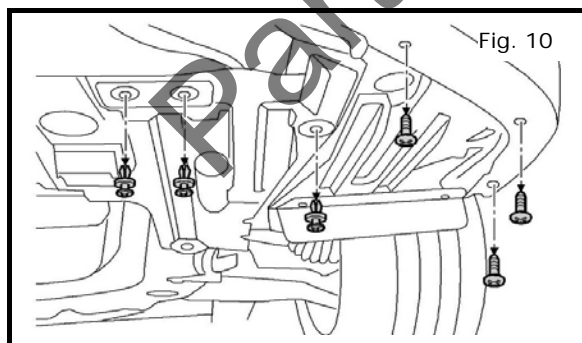

Fig. 10
- b) Remove three (3) phillips screws followed by three (3) retaining clips as shown in Fig. 10.